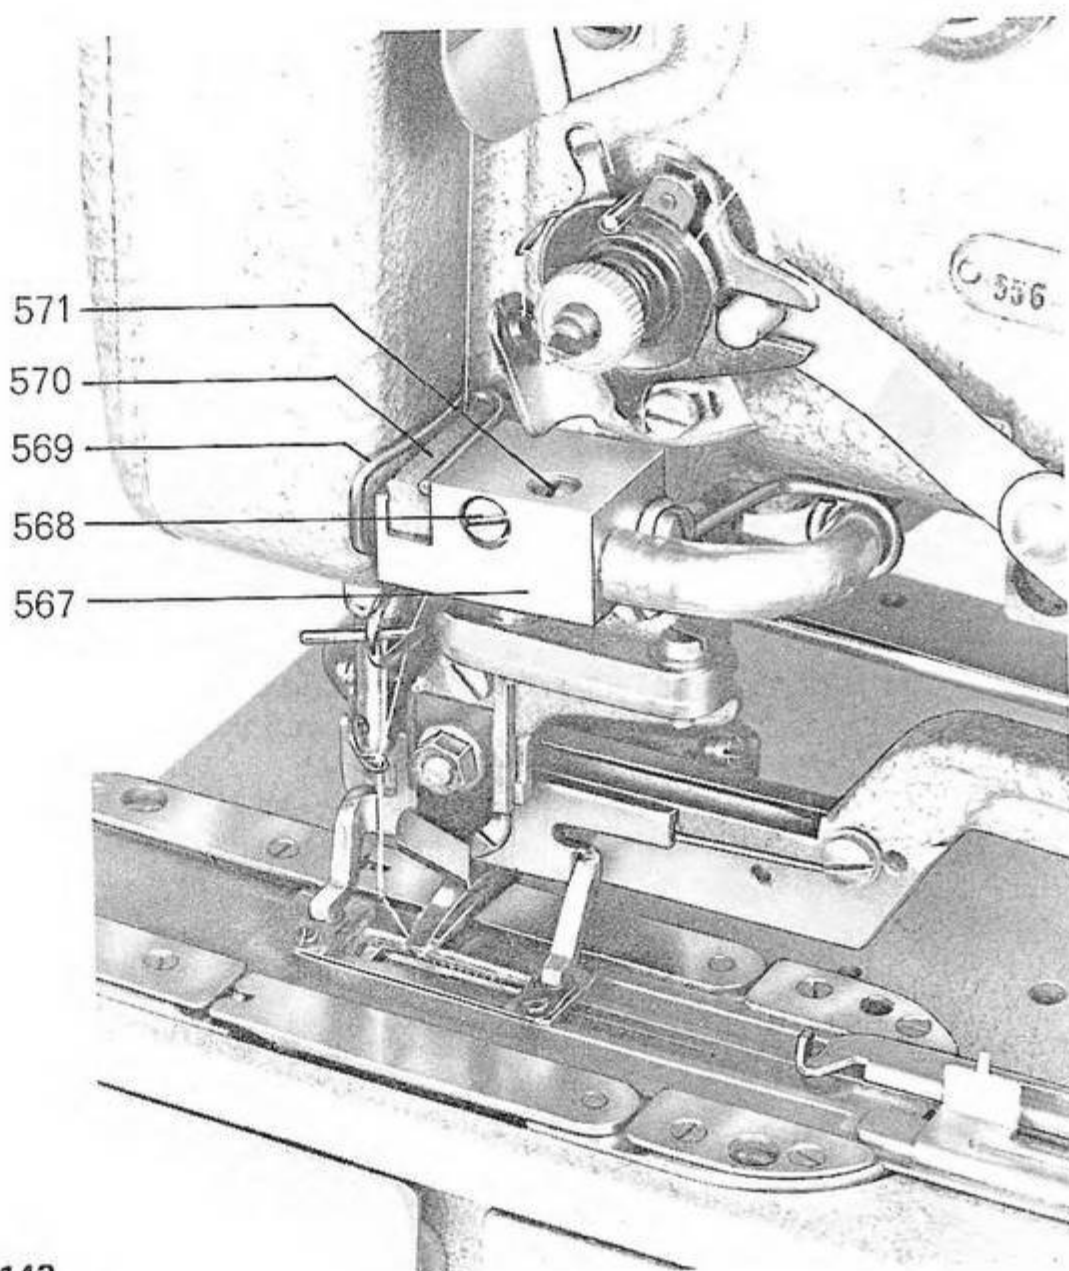

Fig. 143
2. Remove the thread guide from the arm head and fasten there the sub-assembled block 567 by the screw 568. See fig. 143.